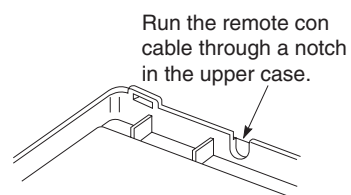
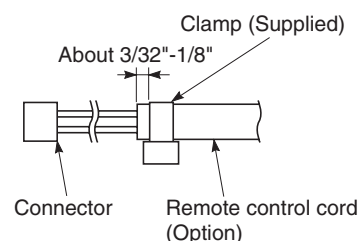

Fig. 5-16
Fig. 5-17
- (1) Insert a flathead screwdriver into the slot on the lower side of the signal receiving unit and pry off the back case.
- (2) The wire routing at the signal receiving unit comes out of the upper case (thin portion at upper center) so use nippers or a similar tool to cut out a notch beforehand large enough for the remote control cable (option) to pass through as shown in Fig. 5-16.
- (3) Remove the wire, which is connected prior to shipping, from the connector.
- (4) Connect the remote control cable (option) to the signal receiving unit connector as shown in Fig. 5-17 after the clamp (supplied) with the unit is installed.